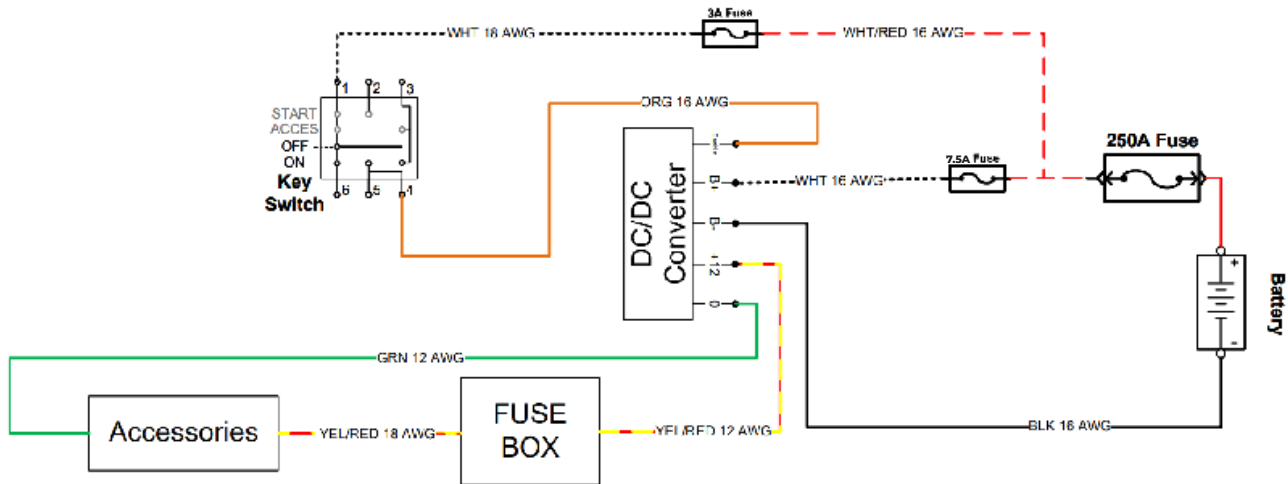

Figure 51. DC/DC Converter Input and Output Terminals Inspection.
1. 1. Check for the presence of voltage between the positive terminal (**B+**) (White Wire) and the negative terminal (**B-**) (Black Wire) of the DC/DC converter (As shown in Figure 51).
1. 2. Check for the presence of voltage between the orange wire and the negative terminal (**B-**) (Black Wire) of the DC/DC converter (As shown in Figure 51).
2. 1. Check for the presence of voltage between the yellow/red wire and the green wire of the DC/DC converter (As shown in Figure 51).